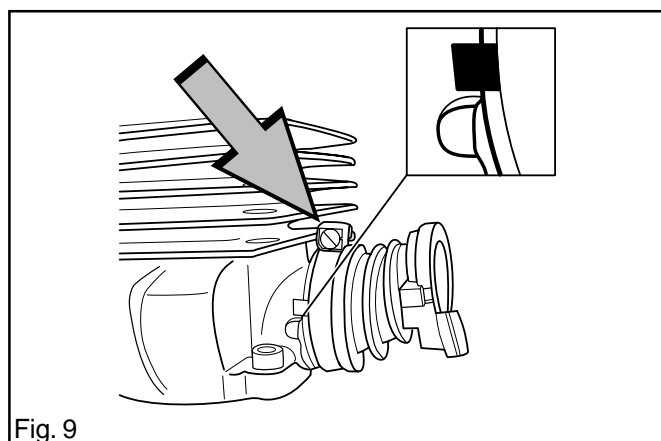

Fig. 9
3. Fit the intake manifold on the cylinder. The clamp bolt should be upwards. See fig. 9.